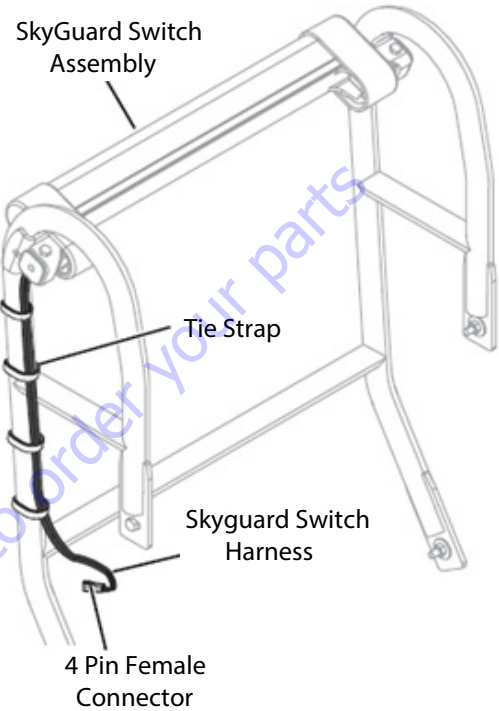

Figure 4-22.
9. Route the SkyGuard switch harness along SkyGuard support bracket (right side) and under the platform control box. Secure the harness using tie straps. See Figure 4-22.